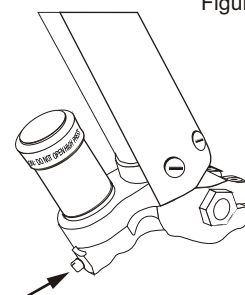

Figure 4
A) If your forks ride far into the travel and/or feel soft in certain situations, turn the adjustment screw located on the side of the piggyback reservoir located on the right lower fork leg one turn clockwise (All the way in clockwise is the maximum)(figure 4). The forks should feel plush but should not stroke rapidly through the travel and bottom hard. If you have to adjust the compression adjuster all the way in to stop bottoming, you may consider substituting a stiffer fork spring.